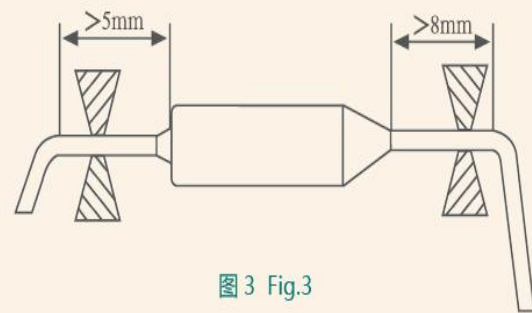

图3 Fig.3
- 环氧树脂封装端的引出线若需折弯使用，请在距离环氧树脂部位 8mm 以外进行，以免损坏绝缘子，另一端的引出线的折弯，在距离外壳 5mm 以外进行。折弯时，请一边固定引出线（环氧树脂部位不施加力）一边折弯。（见图 3）
- When bending leads, secure the leadwire near the body of TCO, at least 8mm should be maintained between epoxy seals and lead bents and at least 5mm for the lead on the other side. (see Fig.3)